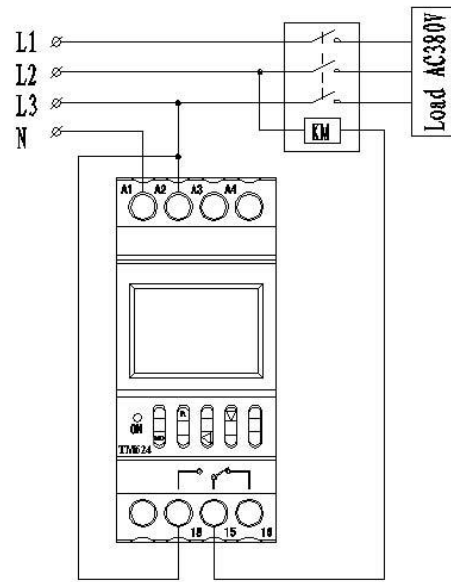

Figure 5 Three-phase controlled wiring diagram (380V for contactor coil)
b) The coil voltage of the controlled contactor is AC 380V 50Hz, so its wiring method sees Figure 5.